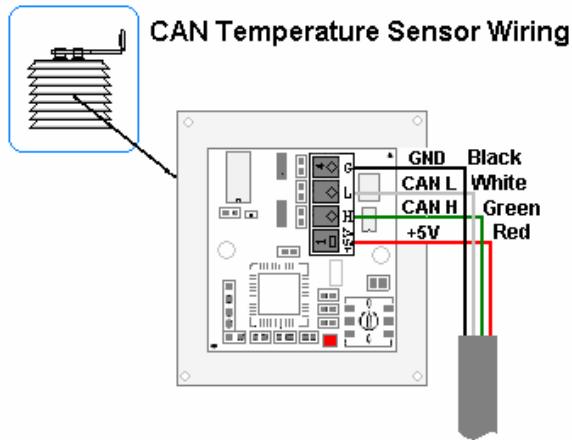

Figure 6: CAN Temperature Sensor Wiring
3. Cut the cable to the desired length and reattach to the temperature sensor terminal block in the CAN temperature sensor housing. Refer to the table and **Figure 6** for the temperature sensor wiring.